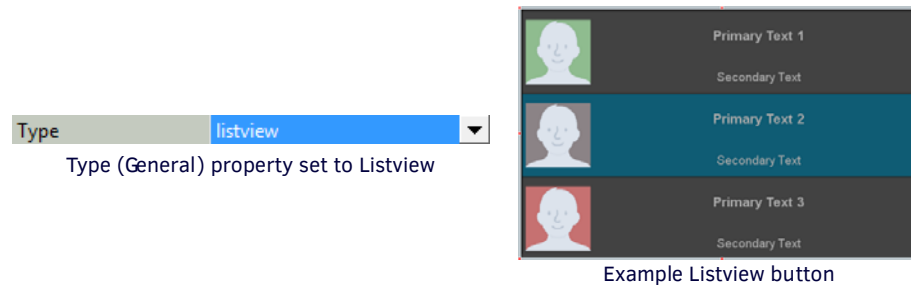

FIG. 185 Type (General) Property set to Listview
2. With the new button selected, click the **Type** (General) property and select **Listview** from the drop-down of button types. This selection sets the new button as a Listview button, and enables a set of Listview-specific properties (FIG. 185):